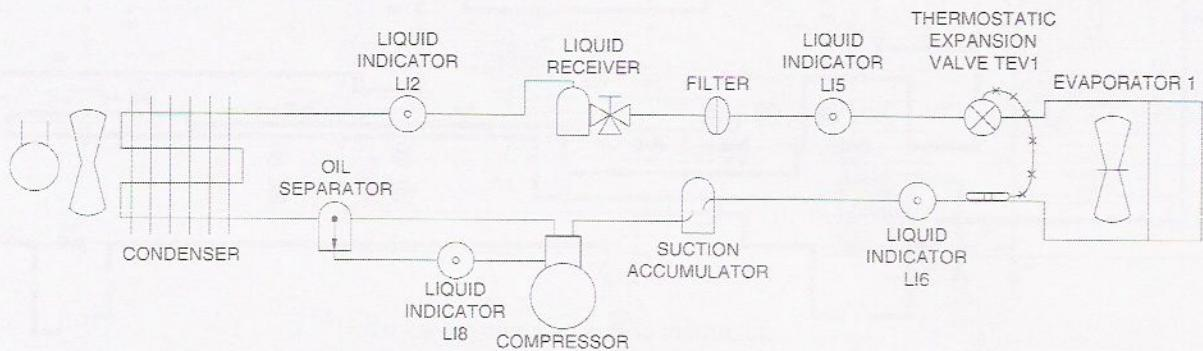
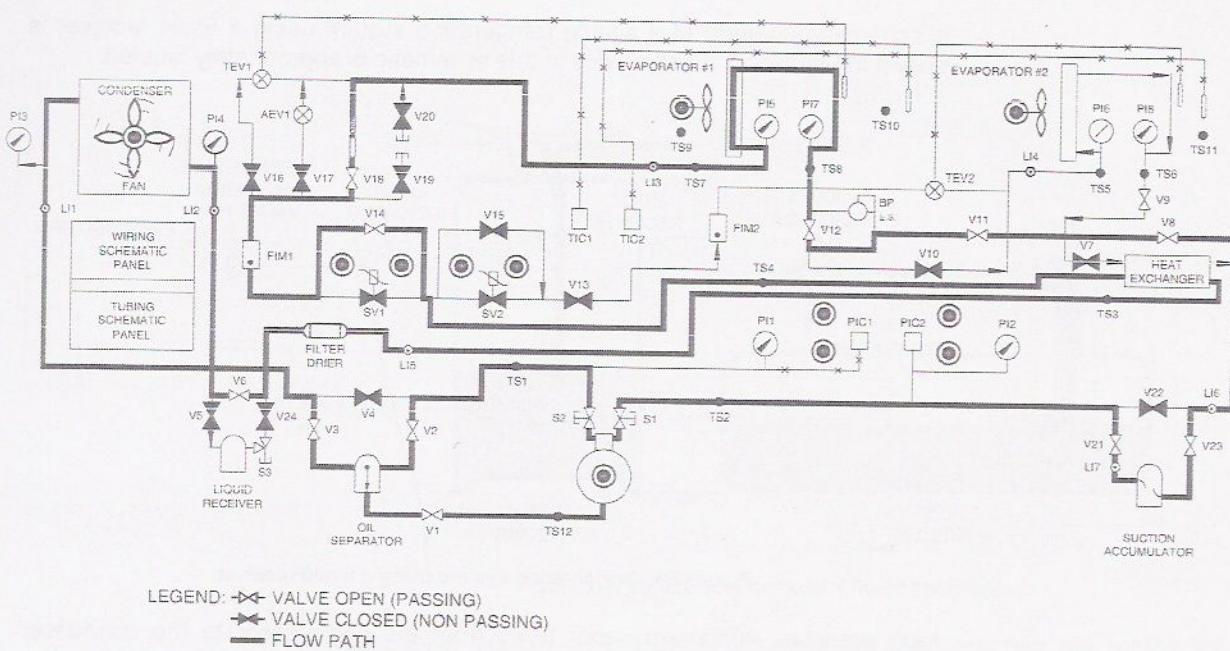

Figure 2-3. Refrigeration system using a liquid receiver.
Figure 2-4. Valve configuration.
A schematic diagram of a simple refrigeration system using a liquid receiver is shown in Figure 2-3. Each device in this schematic is appropriately labeled.
The manual valves which must be opened or closed to arrange this system are not indicated on this schematic. However, a pictorial diagram of the system panel, shown in Figure 2-4, indicates the open and closed manual valves. The valves that are darkened are closed. A pictorial diagram is not used in the field since it requires too much time to draw and is therefore not practical. It is therefore necessary for you to become familiar with the schematic diagram as soon as possible.
- Open and close the manual valves to arrange the refrigeration system as shown in Figure 2-3. The trainer's schematic panel (tubing section) shown in Figure 2-4 may be used to assist at this point.